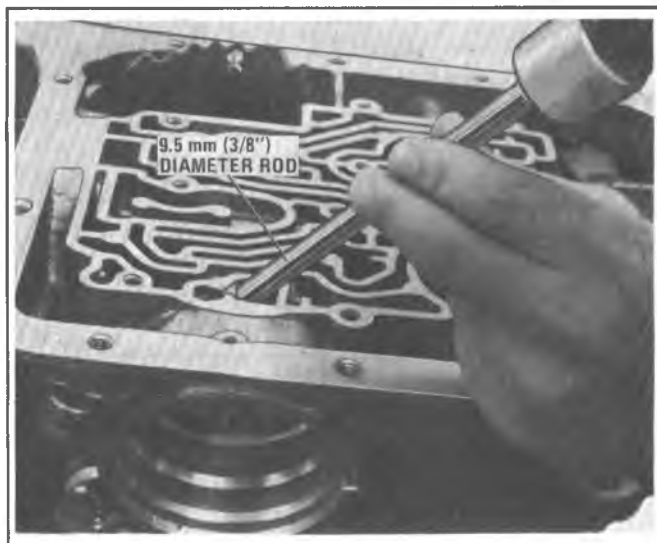

Figure 7A1-26 Installing 3rd Accumulator Check Valve Assy.
a. Install J-25013-1 sleeve on output shaft first; then bolt J-25013-5 on end of case. (Figure 7A1-27).